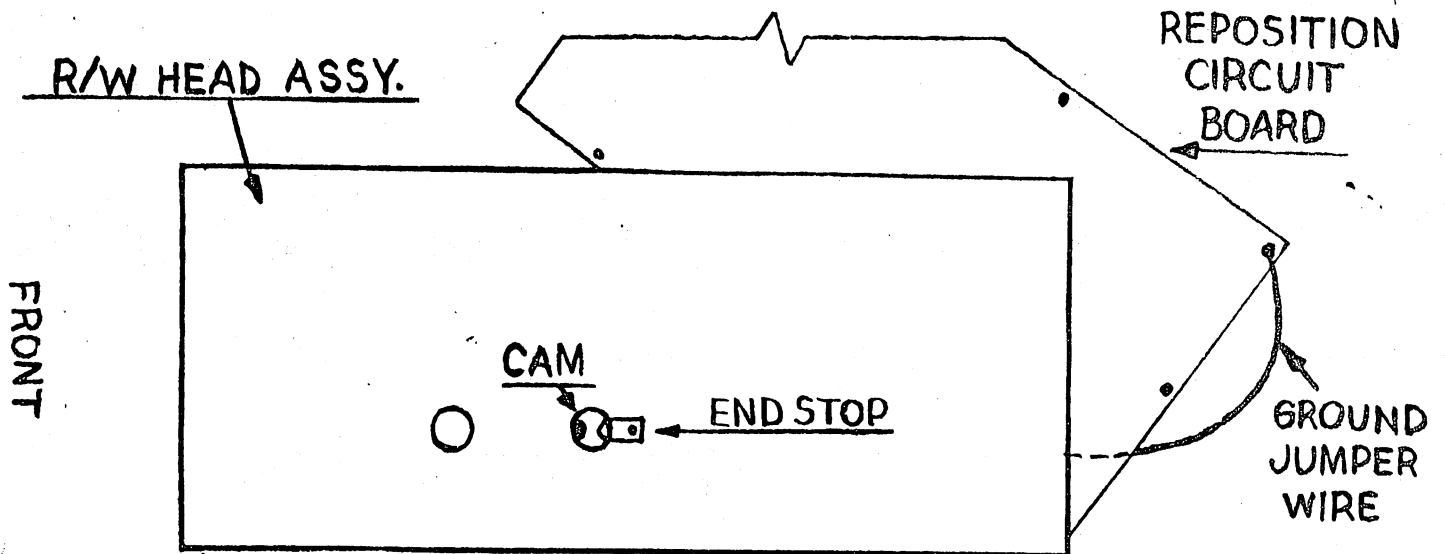

FIG. 3 TOP VIEW
- d). Carefully lift the circuit board and rotate it to the left. You may need to re-route some of the wires that are attached to the board in order to move the board far enough to expose the end stop (see figure 3). Sometimes it is easier to remove the connectors before trying to move the board.
- f). Hook up any connectors that may have been removed earlier, the power cable, the ground wire (jumper wire) and turn on the power. The jumper wire should be attached to the ground pad at the left rear of the circuit board (at the screw hole) and to the metal frame of the drive (see figure 3).